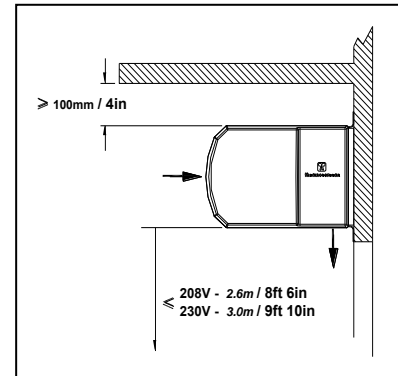

Fig 1
- the height of the discharge grille above floor level to be no more than as indicated in Fig 1
- at least *100mm / 4in* clearance (air gap) above electric/water heated air curtains, see Fig 1